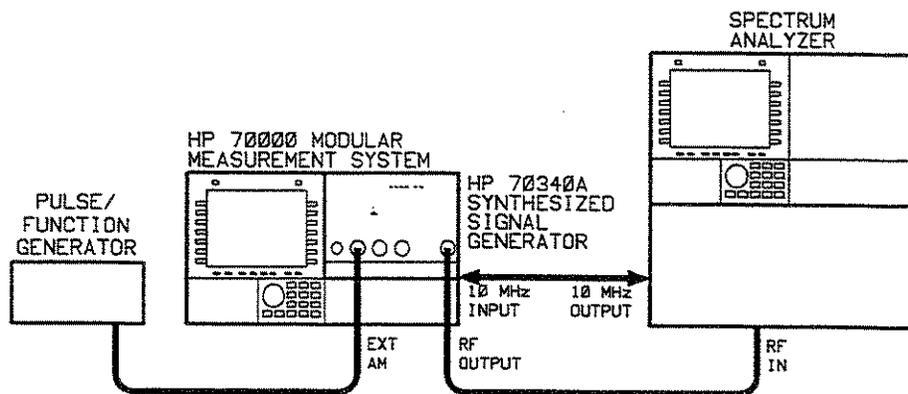

Figure 1-22. Minimum AM Depth Test Setup
6. Connect the equipment as shown in Figure 1-22.